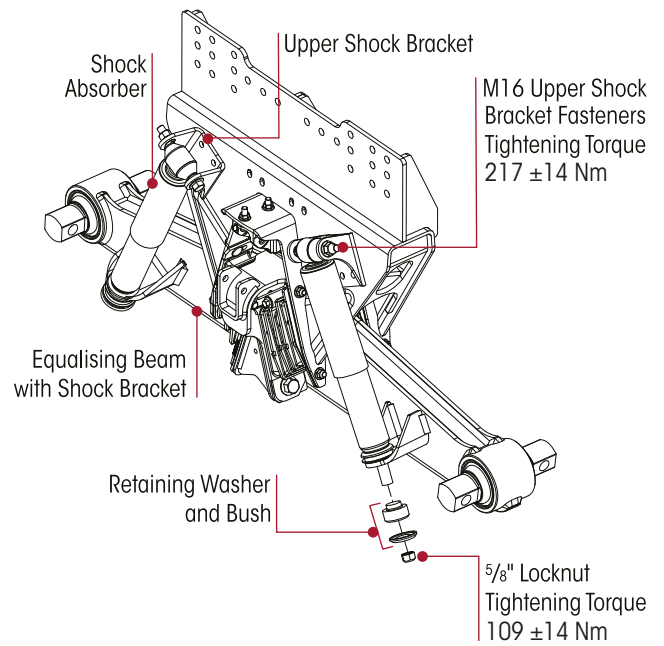

Figure 37: Shock Absorber Assembly
2. Remove the lower shock absorber nylon locknut, retainer washer and rubber bush from the shock absorber stud, refer Figure 37.
3. Remove the upper shock fasteners from the upper shock bracket, refer Figure 37.
2. Hold upper shock absorber bolt with spanner and tighten nut to **217 ±14 Nm** torque, refer Figure 37.
4. Hold shock body by hand and tighten lower mounting nut to **109 ±14 Nm** torque, refer Figure 37.